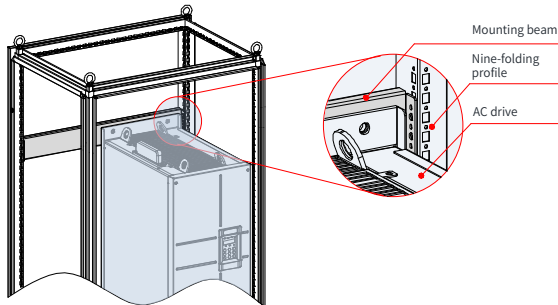

Figure 3-16 3D view of a 200–450 kW cabinet
- 2) When an AC drive of CS710-4T200G(-L) to CS710-4T450G(-L) is mounted in a 600-mm deep nine-folding AL cabinet, the fixing beam must be folded inwards to leave more space for the AC drive, as shown in Figure 3-16. This is not required when the AC drive is mounted in an 800-mm or deeper cabinet.